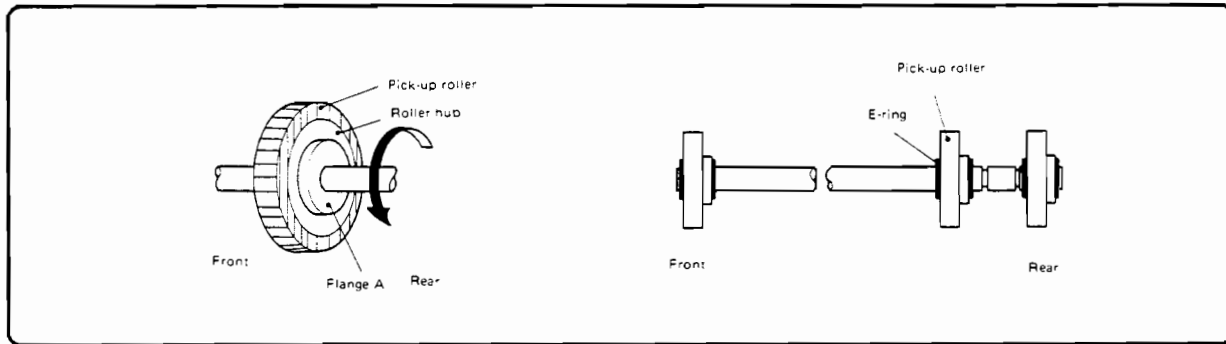

Figure 6-142. PDX Pick-up Rollers
2. Remove the rubber roller from the roller hub by pulling the roller to the side and twisting it off the hub (Figure 6-142).
3. If the hub must be replaced, remove the e-ring and slide the hub off the shaft (Figure 6-142).
To permit the rollers to turn correctly when installing them on the shaft, orient each roller so that the wider flange ("Flange A" in Figure 6-142) faces toward the rear of the deck unit.